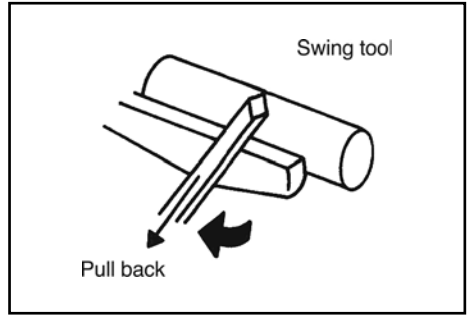

FIG. 29
10.9 USING A SKEW CHISEL – FIGS. 29 – 33
For finish cutting, the skew should be held with the cutting edge considerably in advance of the handle and should be bevel against the work. Good practice is to place the skew well over the workpiece and pull it back until the edge begins to cut; then swing the handle into position to advance the cut. Both the toe and the heel of the skew can be used for making light cuts; but do not penetrate the wood too deeply without cutting clearances as you may burn the tip of the tool. Refer to Figs.29, 30, 31, 32 & 33.